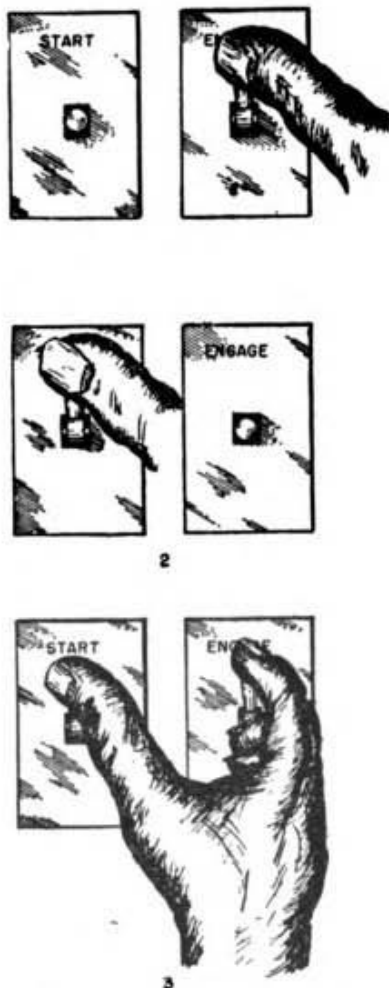

Figure 27. Positions of direct-cranking electric inertia starter switches
(4) COMBINATION ELECTRIC-INERTIA DIRECT-CRANKING STARTER OPERATION. Set all the controls and switches for starting. Shout "All clear" to warn crew members to stand clear. Step 1, figure 27, indicates the position of the switch to stop any flywheel rotation.